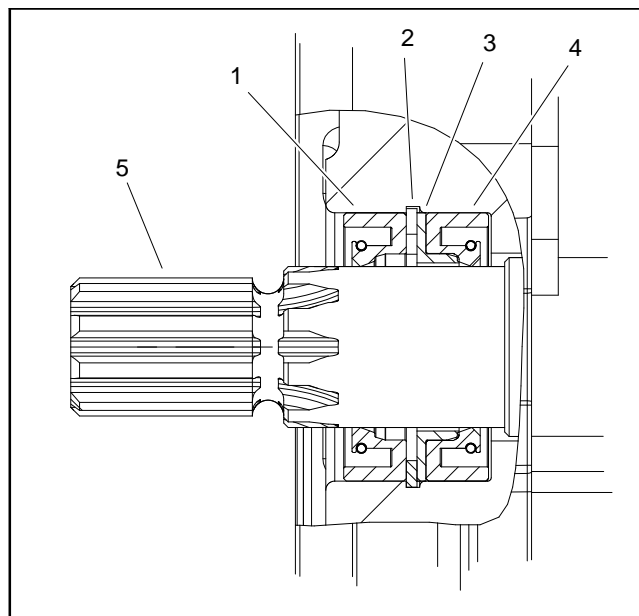

Figure 70
10. Carefully remove dust seal, retaining ring, flange washer and shaft seal from the front flange (Fig. 70). Discard seals.
2. Install new seals into front flange (Fig. 70):